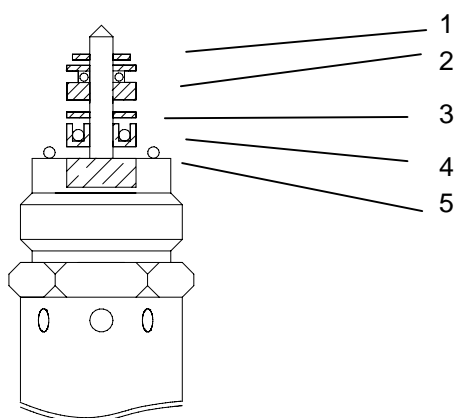

Fig. 8. Piston wash assembly, analytical pump head
1. Remove the white Kel-F ring covering the piston wash seal located inside the cavity in the piston cartridge (figure 8, 3).